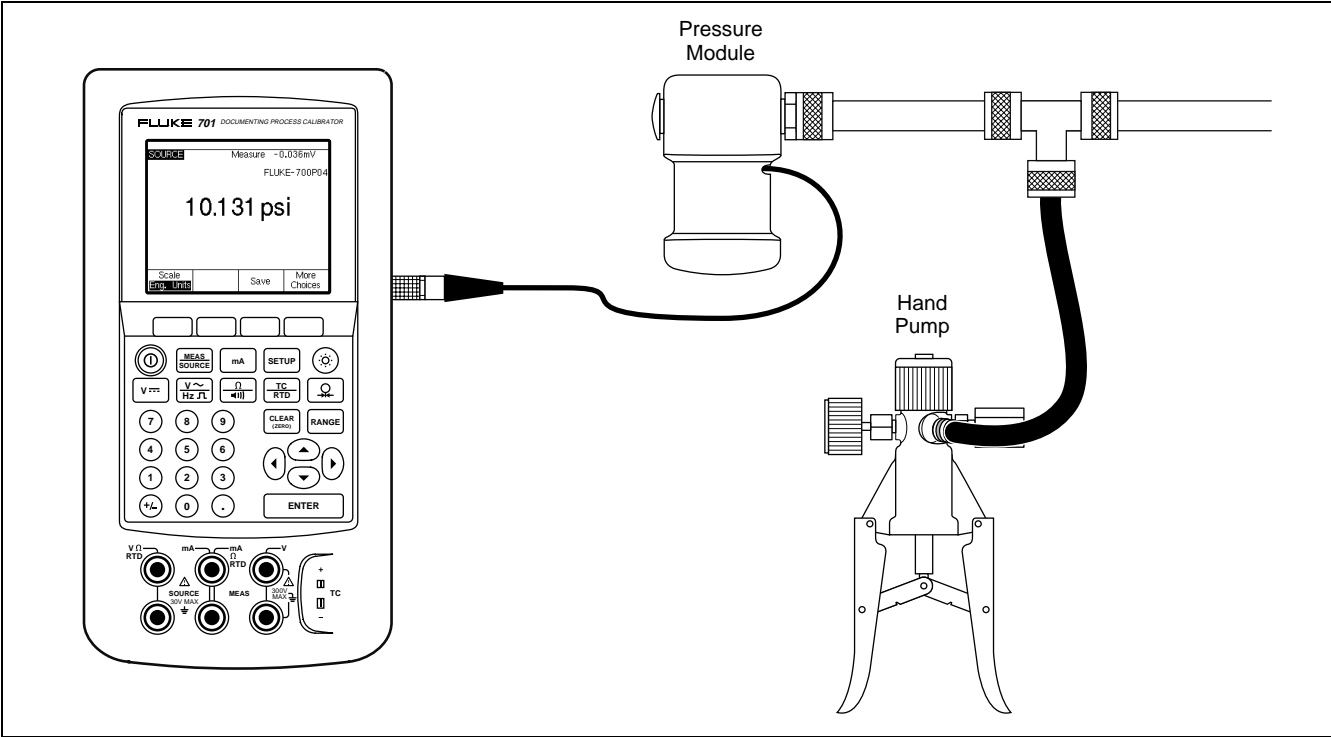

Figure 17. Connections for Sourcing Pressure
To use the source pressure display, see Figure 17 and proceed as follows:
1. Connect a pressure module and pressure source to the calibrator as Figure 17 shows. The threads on the pressure modules accept ¼ NPT fittings. Use the supplied ¼ NPT to ¼ ISO adapter if necessary.